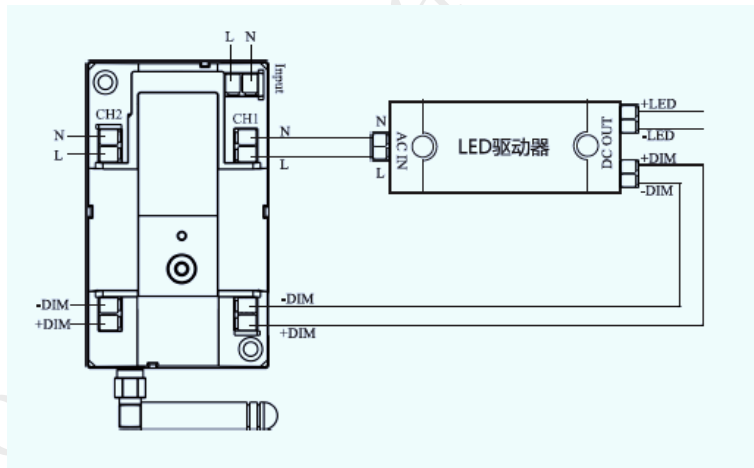

Fig.1
- 1) According to the following diagram starting wiring. Fig.1